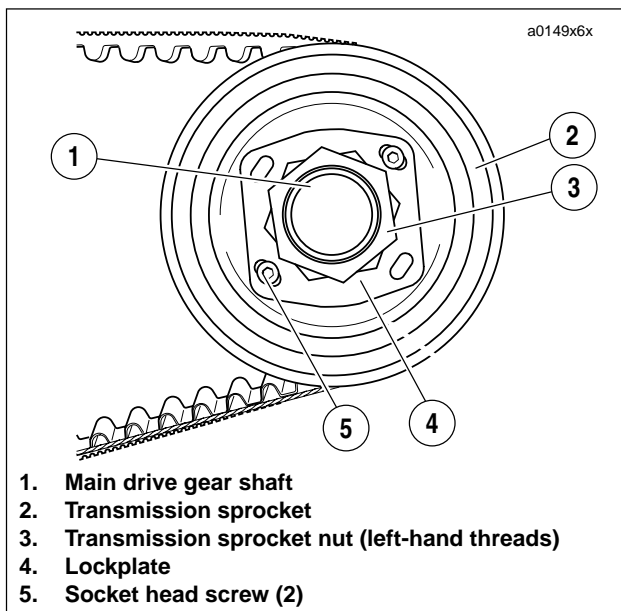

Figure 6-57. Transmission Sprocket
1. See Figure 6-57. Place transmission in first gear. Remove two socket head screws (5) and lockplate (4).
2. See Figure 6-57. Remove transmission sprocket nut (3) from main drive gear shaft (1).
1. See Figure 6-57. Install transmission sprocket (2) with secondary drive belt onto main drive gear shaft (1).
3. Apply a few drops of LOCTITE 262 (red) to the **left-hand threads** of transmission sprocket nut (3) and lightly coat the washer-faced side with clean H-D 20W50 engine oil. Wipe off any excess oil.
9. See Figure 6-57. Install lockplate over nut so that two of lockplate's four drilled holes (diagonally opposite) align with sprocket's two tapped holes.
11. See Figure 6-57. Install two socket head screws through aligned holes of lockplate and into tapped holes of sprocket. Tighten to 90-110 **in-lbs** (10-12 Nm).